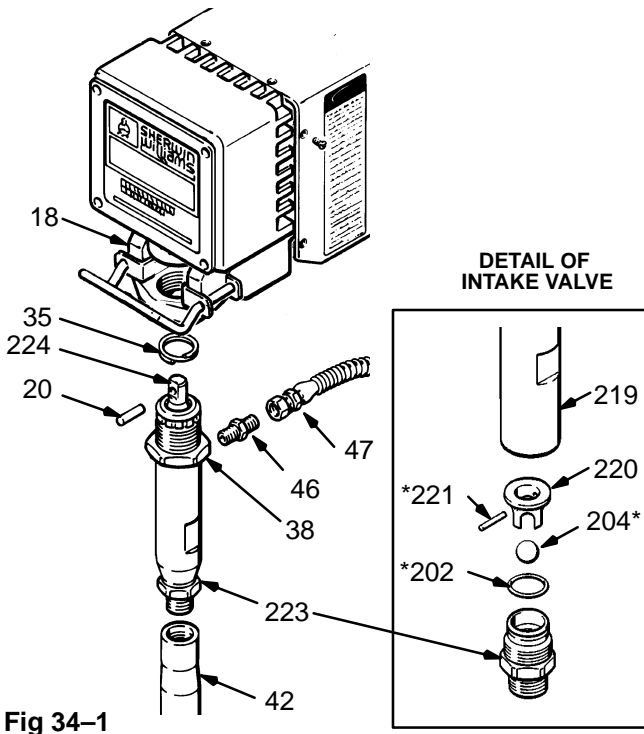

Fig 34-1
### Removing the Pump Refer to Fig 34-1.
1. Unscrew the intake valve (223) from the cylinder (219). Remove the o-ring (202), ball guide (220), stop pin (221) and ball (204) from the valve. Refer to Fig 34-1.